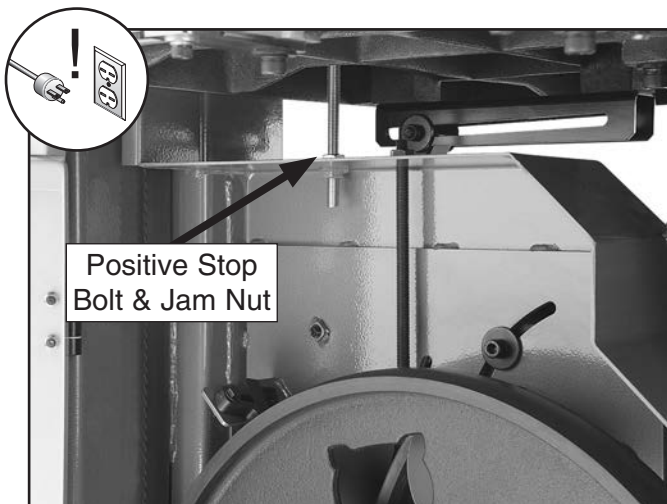

Figure 18. Positive stop bolt and jam nut.
- Open both wheel covers, use a 17mm wrench to loosen the positive stop jam nut shown in **Figure 18**, then lower the positive stop bolt so that it will not interfere with the table tilt in the following steps.